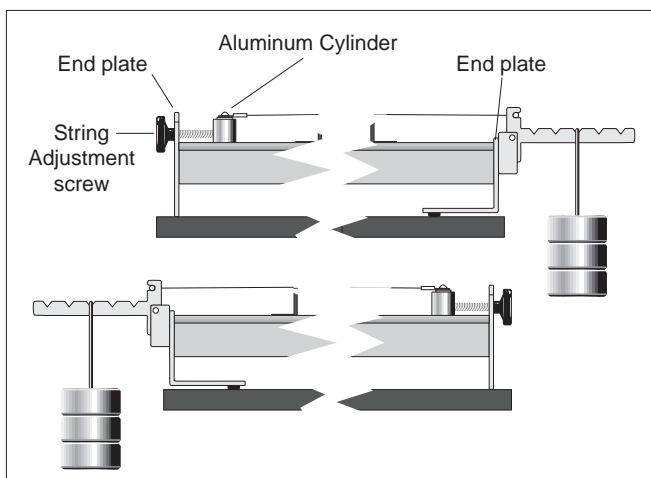

Figure 4 Reversing the End Plates
► **NOTE:** At some lab stations, you may want the tensioning lever to hang over the left end of the table instead of the right (see Figure 4). In this case, you can switch the end plates so that, when performing the experiment, the metric scale will still be right side up. To switch the endplates:
- ① Loosen the string adjustment screw and remove the string.
- ② Unscrew the two screws that hold each end plate onto the sonometer and remove the end plates.
- ③ Slide the aluminum cylinder out of the slot.
- ④ Slide the cylinder into the slot on the other end of the sonometer, then switch the end plates.